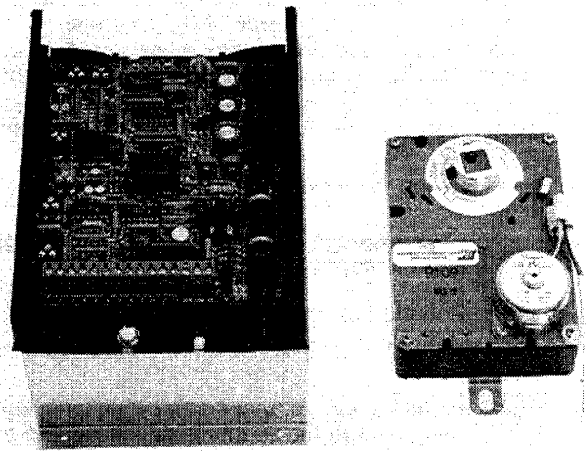

Fig. 33 — Analog Volume Controller
2. Using a digital voltmeter set at 20 vdc, attach the red probe to terminal no. 8 on the controller (see Fig. 33).